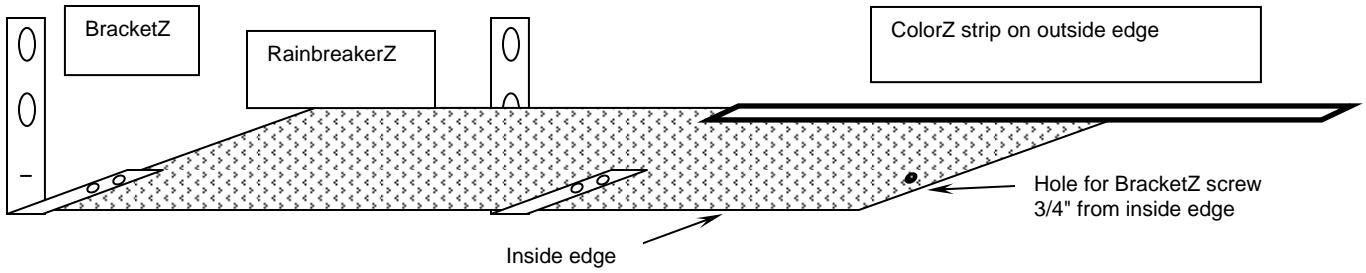
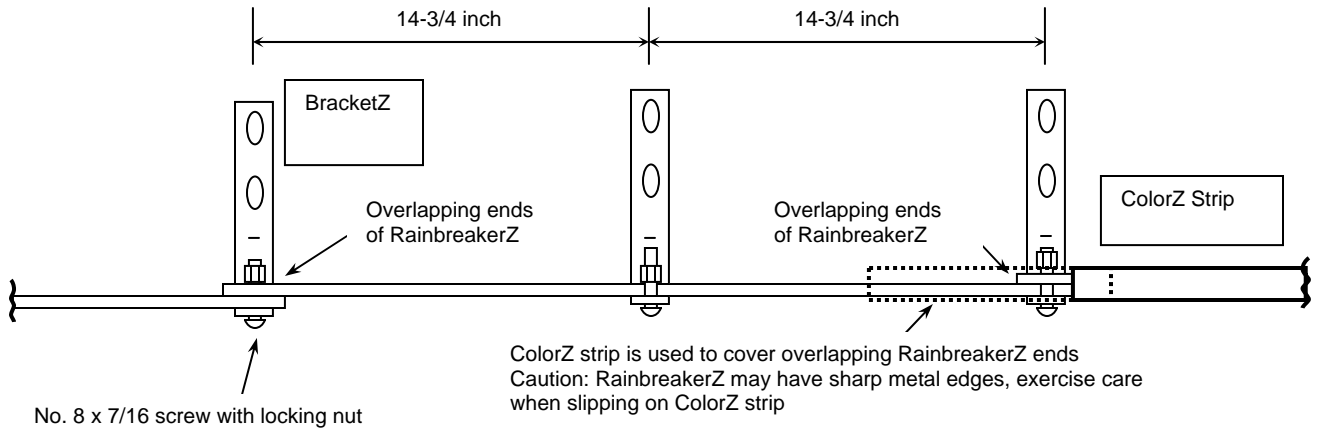
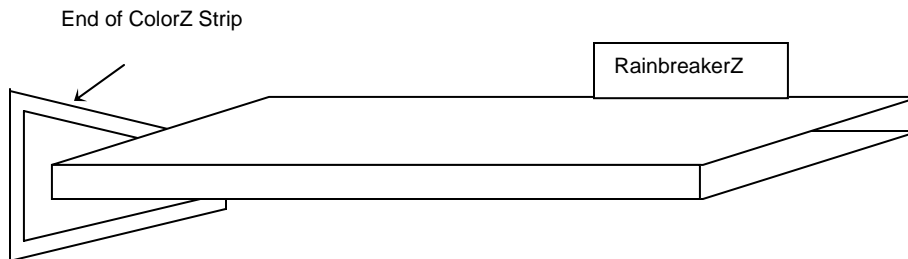

FIGURE 2
FIGURE 3
FIGURE 4
Caution: The RainbreakerZ may have sharp edges, wear gloves for hand protection. Neoprene gloves provide good protection while retaining "tactile feel". Install a ColorZ strip on the outside edge of the RainbreakerZ , see Figures 2 and 3, Partial Assembly Views. Repeat for all RainbreakerZ. Note: The ColorZ strip will be used to cover the overlapping RainbreakerZ ends, see Figure 3, Partial Assembly. For easier assembly, slide the RainbreakerZ corner tip into the wide open portion of the ColorZ strip, see Figure 4.
- c. Slide the ColorZ strip over the overlapping RainbreakerZ ends (see Figure 3).